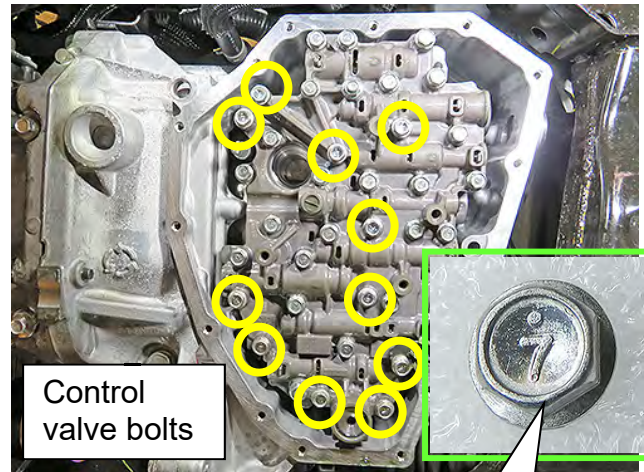

Figure 6
12. Remove ONLY the eleven (11) control valve bolts with markings as shown in Figure 6.